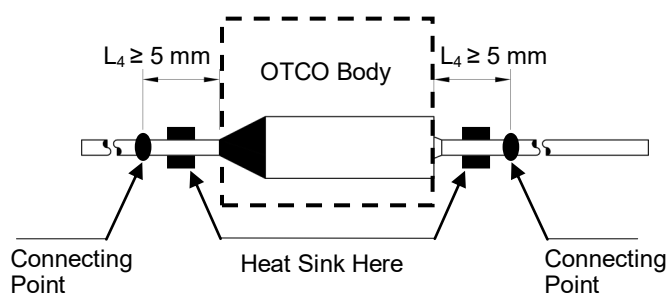

FIGURE RT-2
2. The connection point of the lead shall be greater than 5 mm away from the OTCO body (see L_4 in Fig. RT-2).